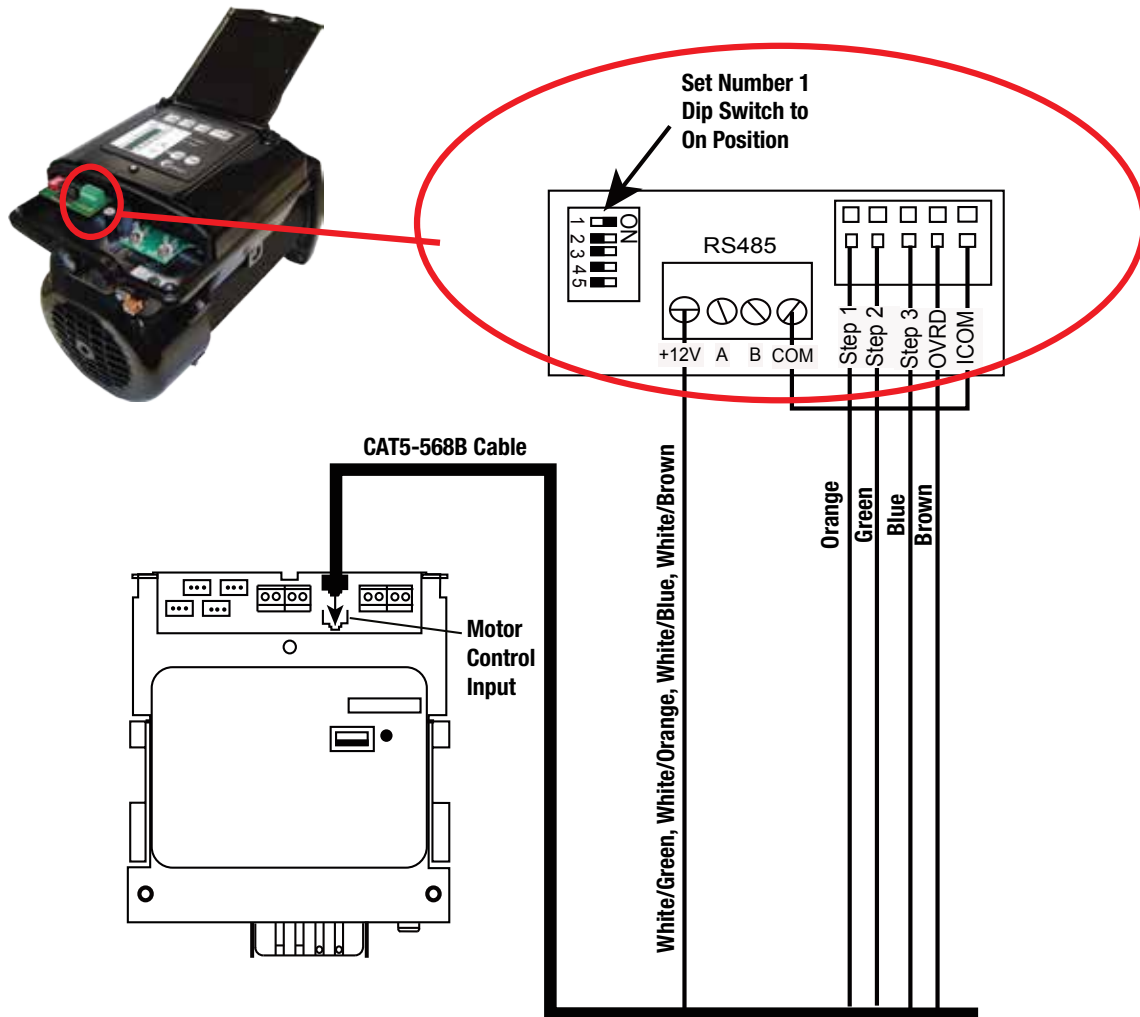
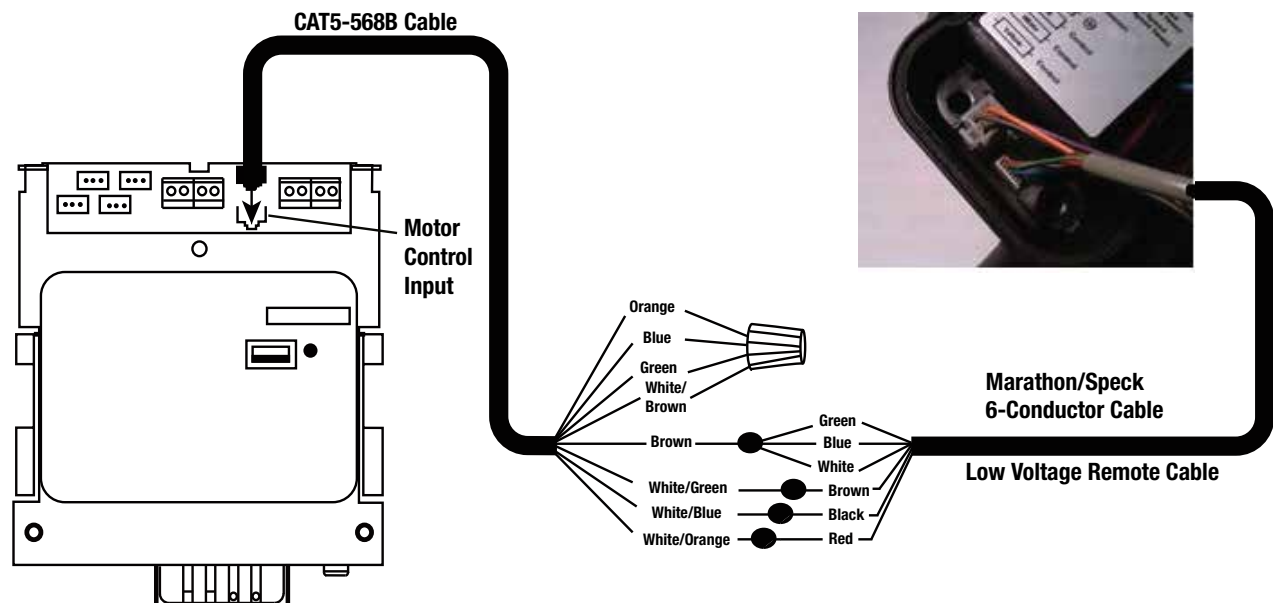

Figure 4-12. Connecting the Century® Variable Speed Pump to the P5043ME.
Figure 4-15. Connecting the Marathon® or Speck® Variable Speed Pump to the P5043ME.
3. Refer to the applicable figure for the variable speed pump manufacturer (Figure 4-12 to Figure 4-15) to connect the wires to the expansion module.